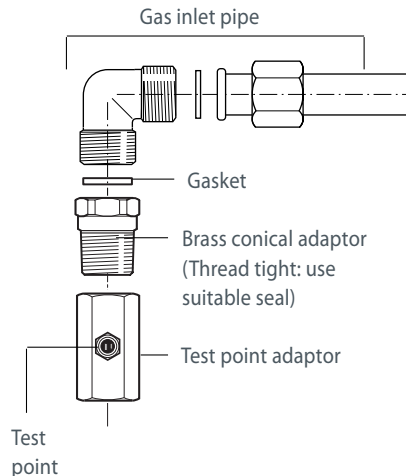

Fig. 6
- For Universal LPG models the gas supply is connected to the test point adaptor which is supplied with the appliance (fig. 6) and ensure that the supply pressure is regulated to 2.75 kPa.